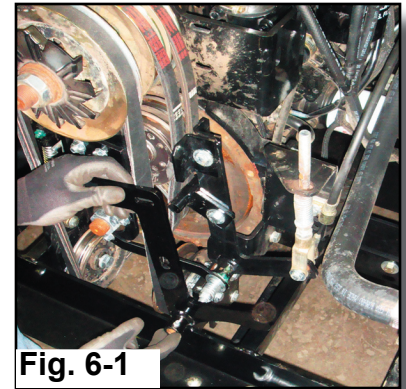

Fig. 6-1
4. Install the updated declutch arm supplied in kit (Fig. 6-1).